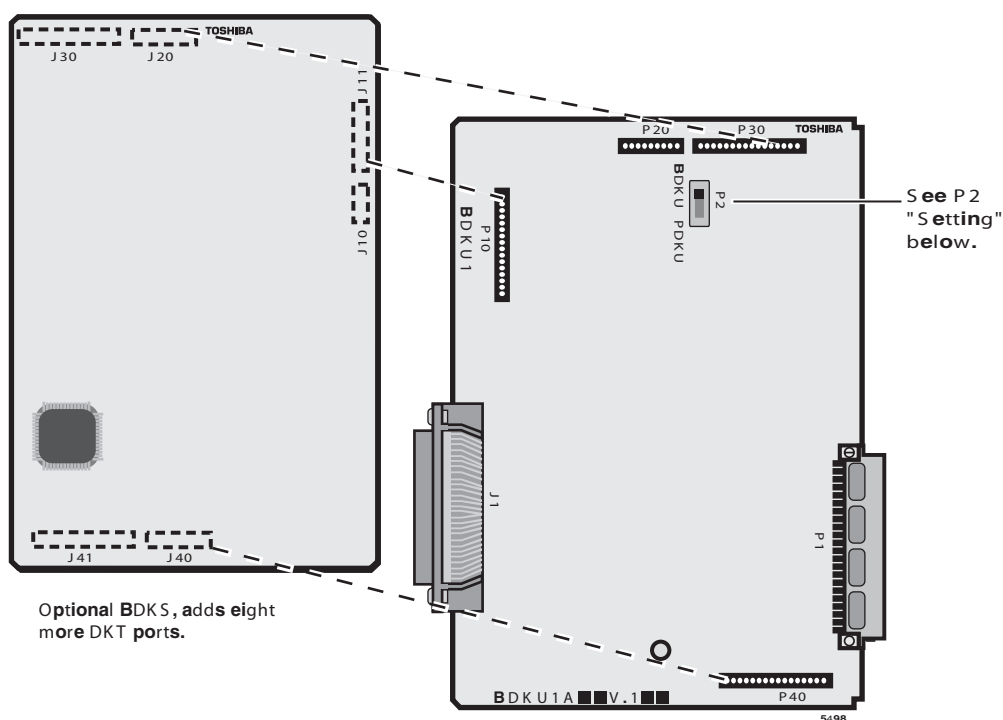

Figure 4-3 BDKU/BDKS PCB
- Match the BDKS connectors to the BDKU, as shown in Figure 4-3. Press firmly to ensure that the connectors are snug.
1. Set the BDKU/PDKU switch for the appropriate system (refer to Figure 4-3 and Table 4-4).